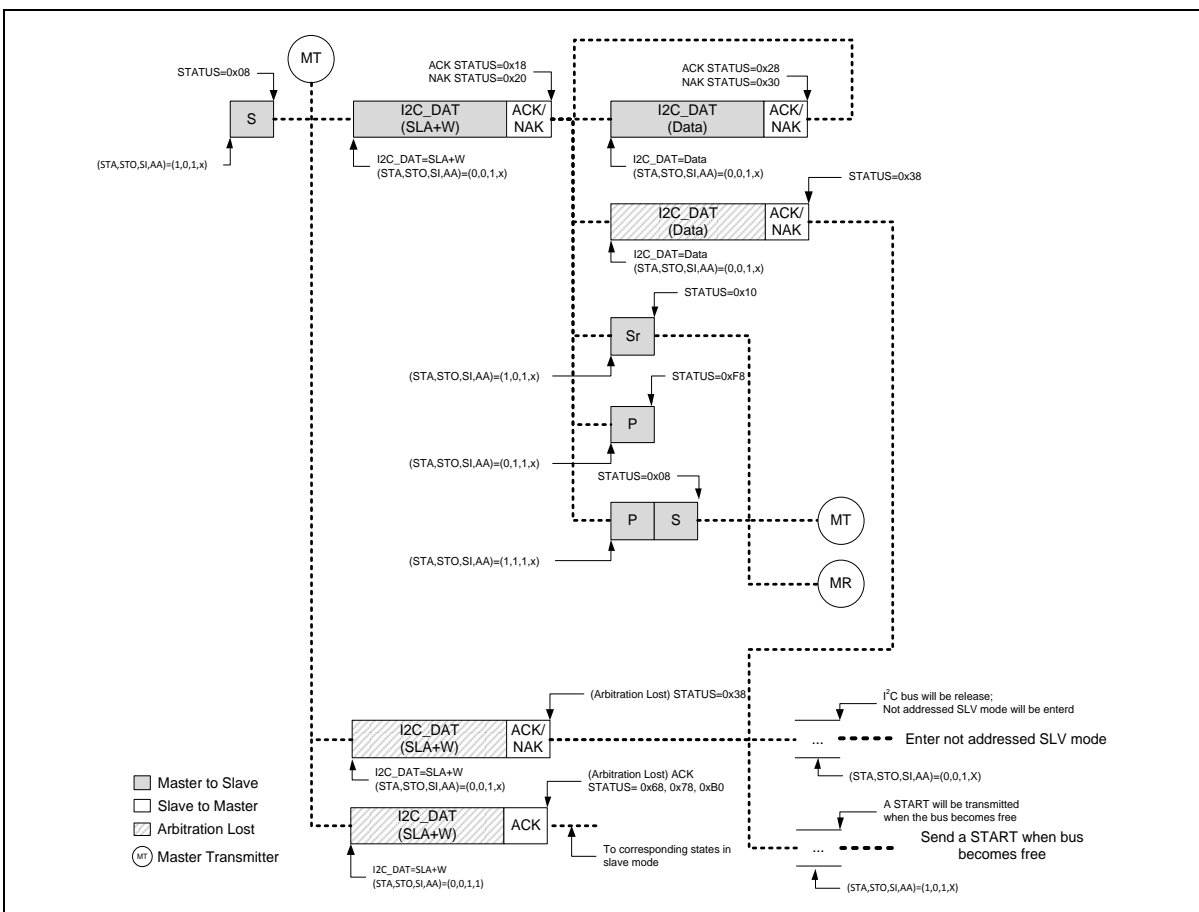
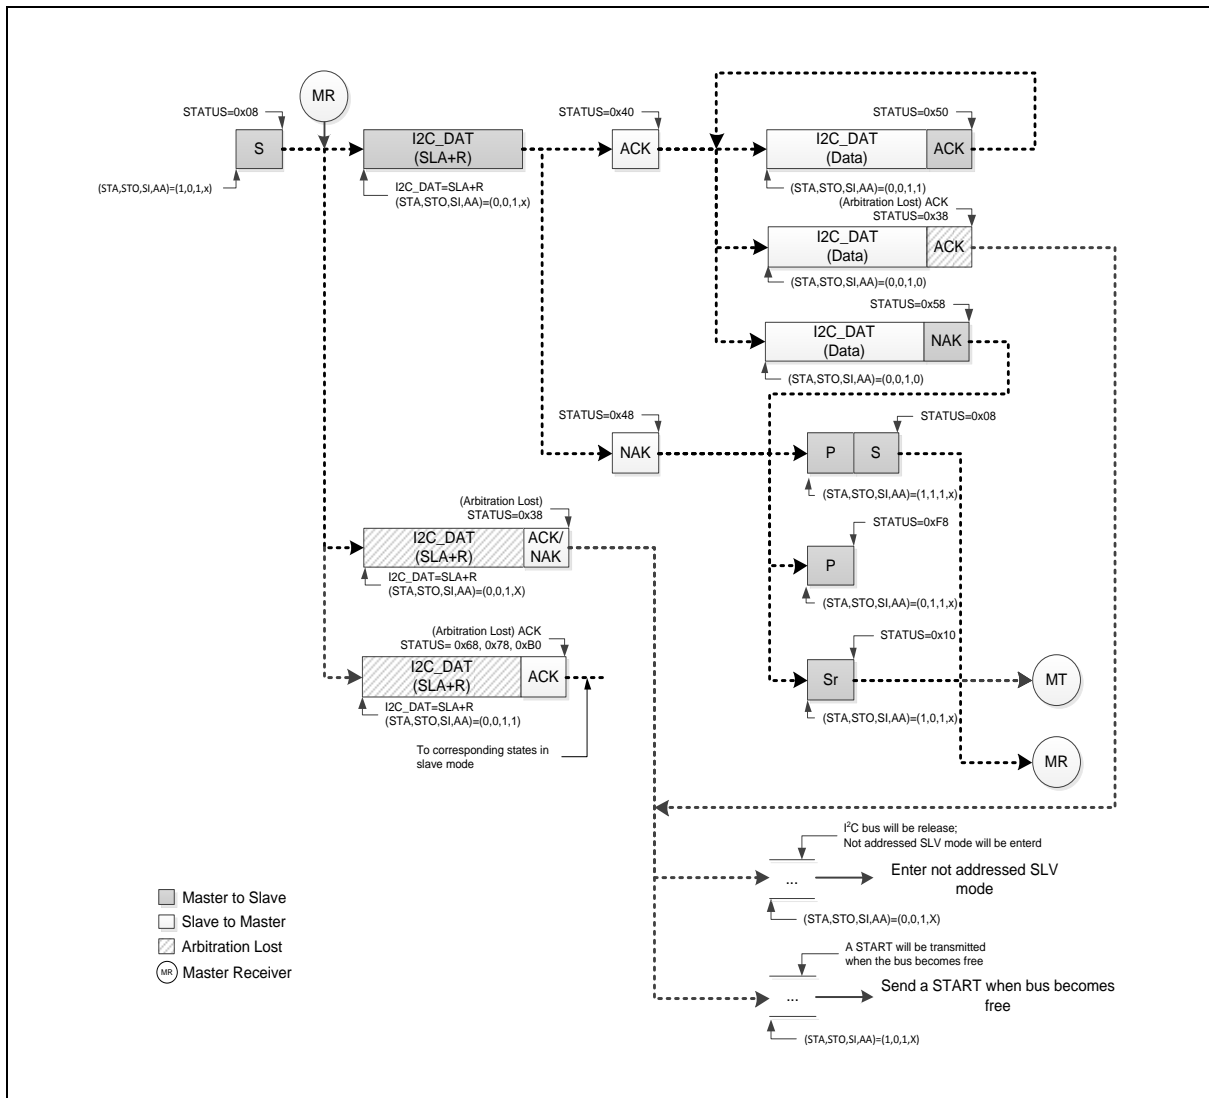

Figure 6.23-12 Master Transmitter Mode Control Flow
Figure 6.23-13 Master Receiver Mode Control Flow
In Figure 6.23-12 and Figure 6.23-13, all possible protocols for I²C master are shown. User needs to follow proper path of the flow to implement required I²C protocol.
In other words, user can send a START signal to bus and I²C will be in Master Transmitter (MT) mode (Figure 6.23-12) or Master receiver (MR) mode (Figure 6.23-13) after START signal has been sent successfully and new status code would be 0x08. Followed by START signal, user can send slave address, read/write bit, data and Repeat START, STOP to perform I²C protocol.